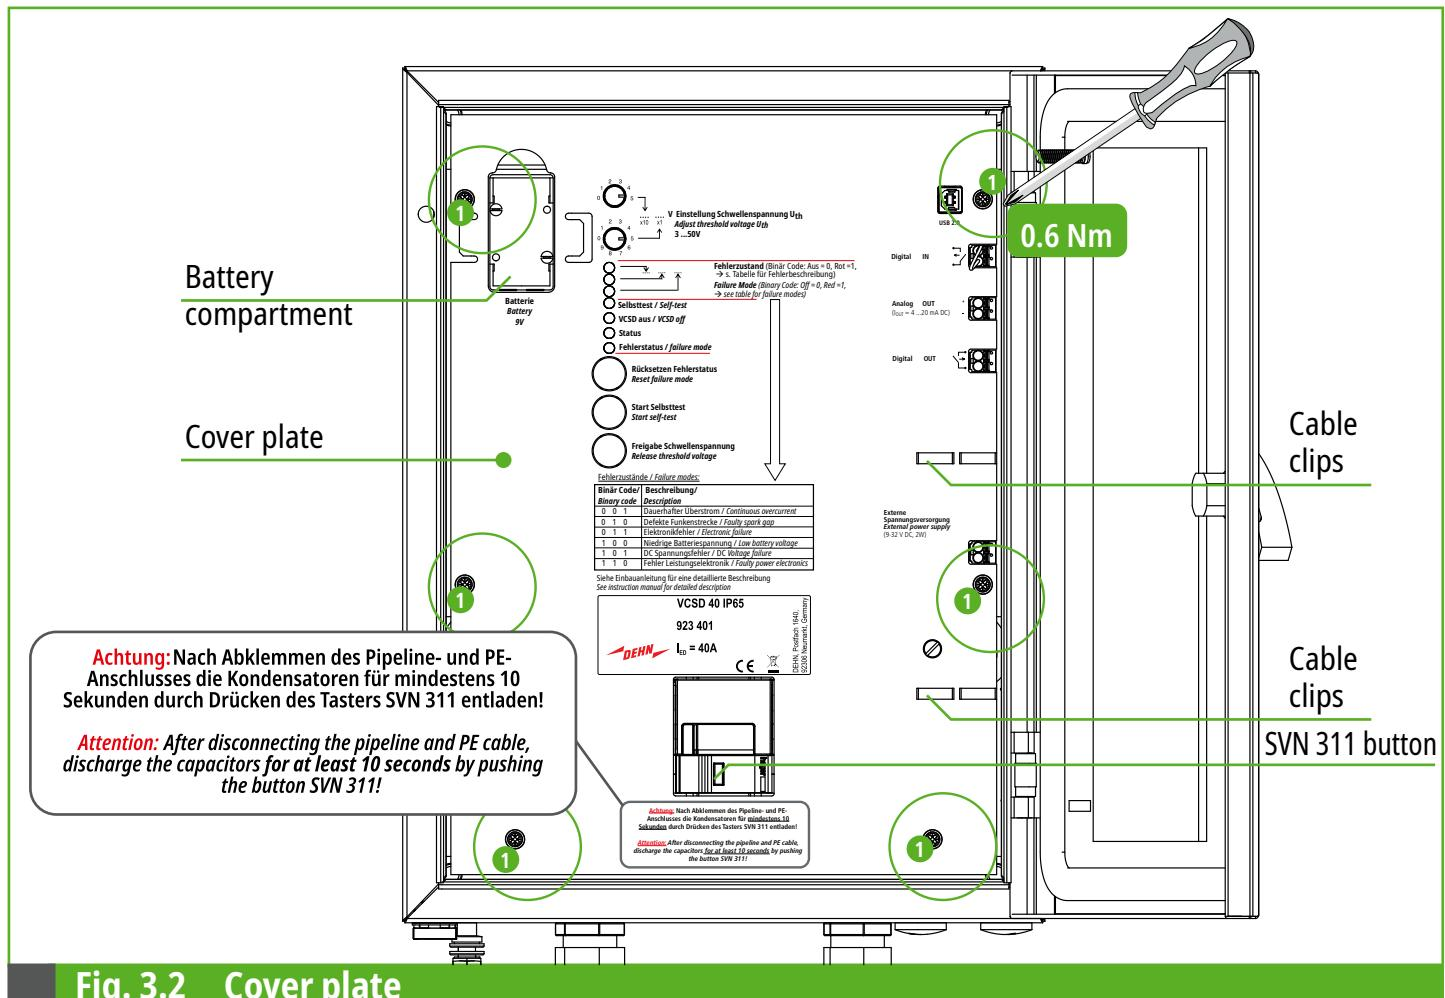

Fig. 3.2 Cover plate
For further installation and connection work, take off the cover plate and remove the battery from the enclosure (see Fig. 3.2).
- ☞ Loosen and remove the six fixing screws **1** before removing the battery (see Fig. 3.2).
To discharge the capacitors, press the SVN 311 button **for at least 10 seconds** (see Fig. 3.2).
If required, the signal lines can also be led into the enclosure subsequently (via **M20 cable glands**). In this case, the cover plate does not have to be removed. The signal lines can be directly fixed on the cover plate using the cable clips (see Fig. 3.2, page 8).